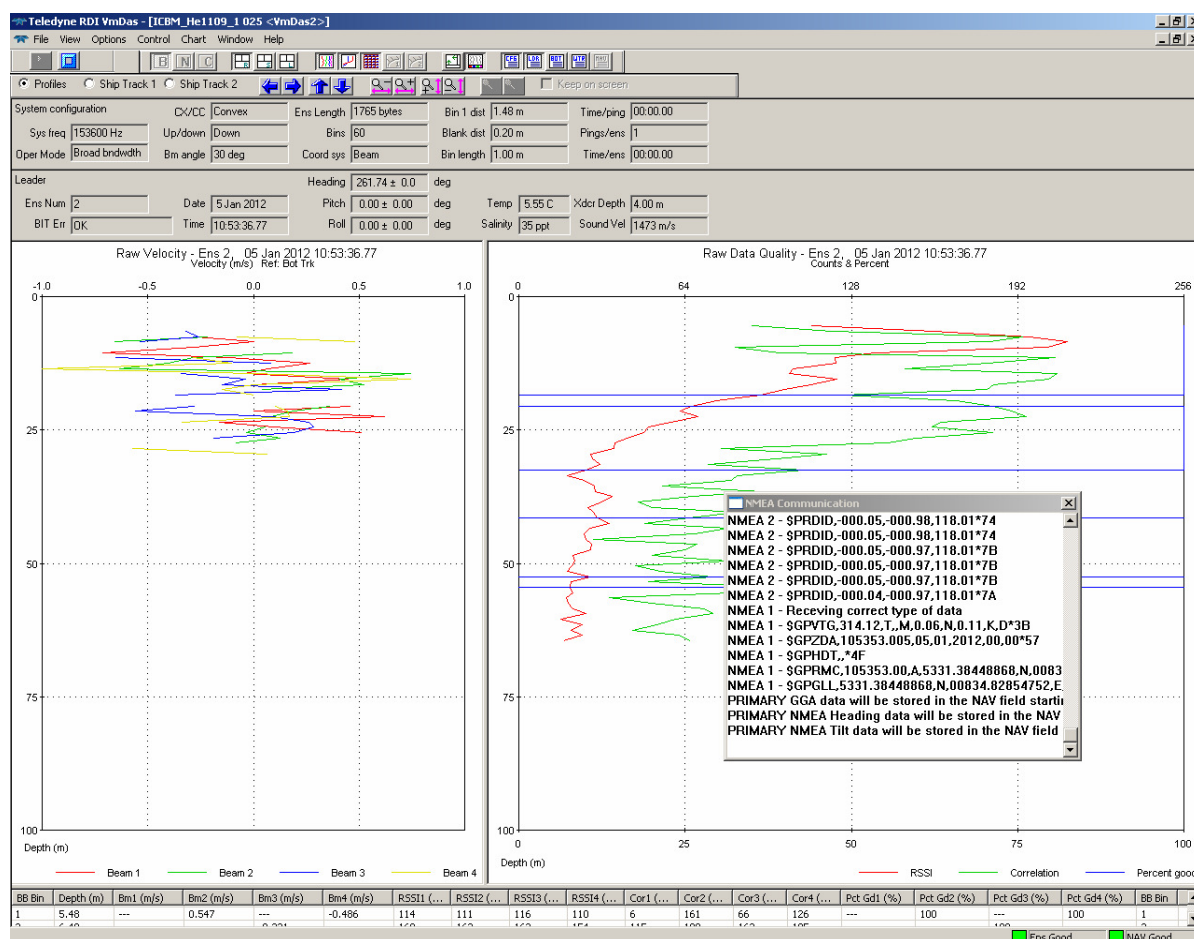

Figure 5: VmDas screen layout during data collection
3. After checking the settings carefully **start the data acquisition.** Select the menu File / Collect Data or press the  button at the upper left of the main window. The data recording starts immediately and the screen looks about the same as the screenshot in Figure 5.